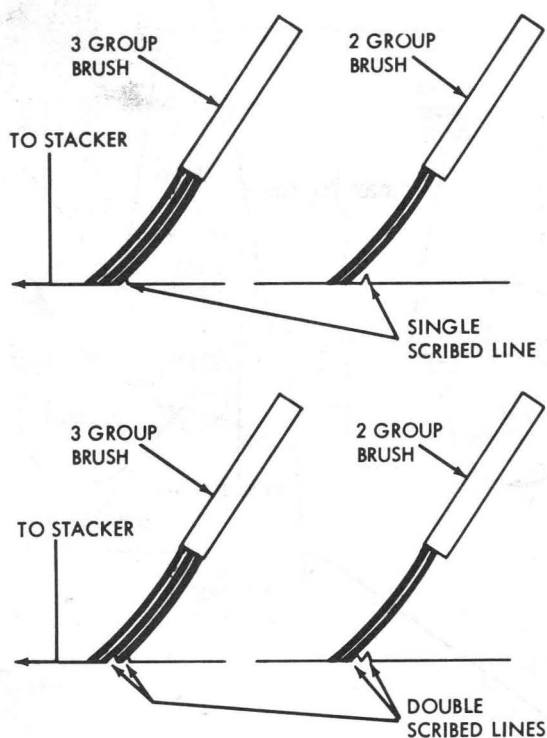

Figure 3-14. Brush Timing
2. The scribed line (Figure 3-14) shows the best brush-to-contact-roll relationship. Four combinations of brushes and brush separators are in use.